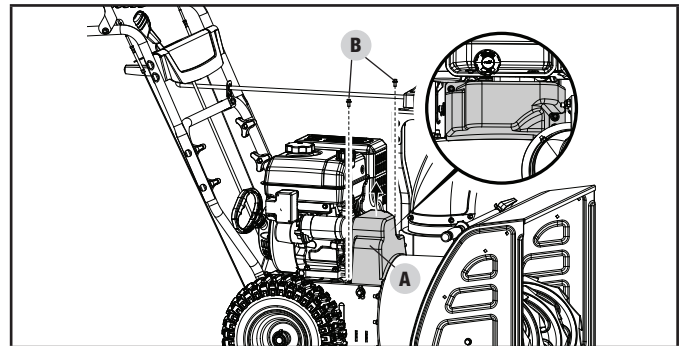

Figure 24A
1. Remove the plastic belt cover (A) on the front of the engine by removing two M6 × 16 bolts (B) (Fig. 24A).